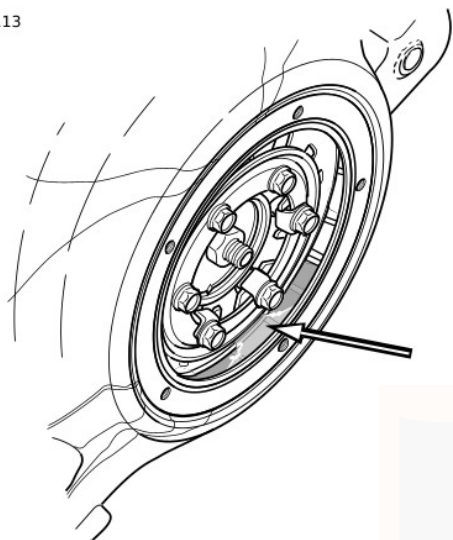

Figure 56. Lubricant Level with Motorcycle Upright
4. See Figure 56. With vehicle standing upright, not leaning on the jiffy stand, the lubricant level must be visible in the bottom of the chaincase and must not be any higher than the bottom of the diaphragm spring.